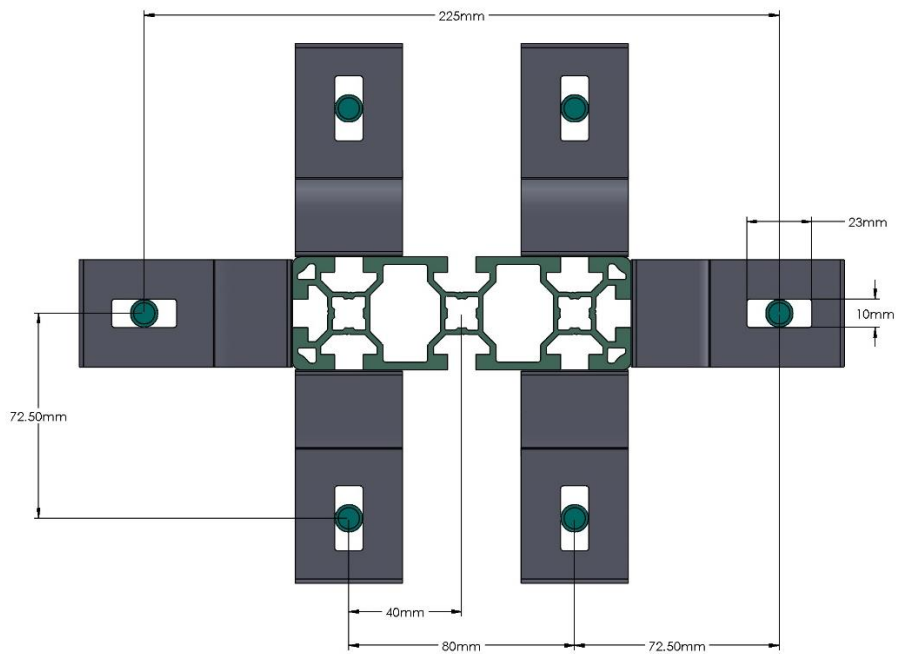

Figure 2-1 Mounting Bracket Screw Hole Locations
- 2.3.1 To begin the product assembly, install the supplied (4) Mounting Brackets to the base of the Pedestal Mount. Install the mounting brackets in the center location of each side (4 total) of the pedestal as show in Figure 2-1: